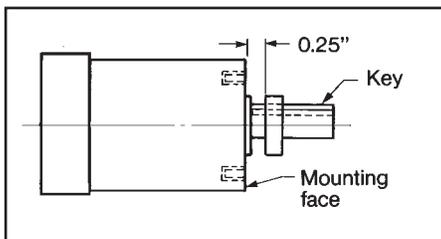

Figure 2
1. Remove hub (16) from brake assembly, using caution to preserve alignment of friction disc, or discs, (4) for ease of brake assembly to motor.
2. Remove and discard all shipping nuts (Palnuts) from four mounting studs (128). Brake can now be separated at junction of housing (7) and endplate (2). Use caution so as not to depress solenoid plunger, which would release and misalign friction discs.
4. Using key (35K), slide hub onto motor shaft to within 1/4" of motor mounting face. Key must extend to motor shaft end. (See Figure 2). A dimple drilled into shaft for set screw at 90° from keyway is recommended to preclude possible hub shift on certain applications especially vertical. Torque both set screws to 78 in-lbs on 1/4" diameter set screws and 156 in-lbs on 5/16" diameter set screws.